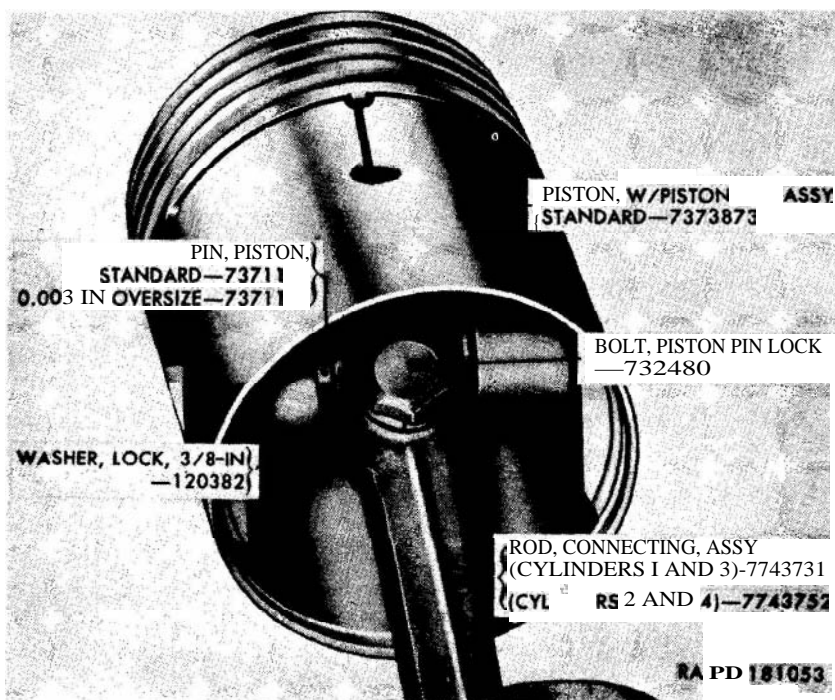

Figure 42. Location of **piston** pin lock bolt.
b. Clamp the connecting rod and piston assembly in a bench vise and remove the piston pin lock bolt and lockwasher (fig. 42).
d. Install the piston pin lock bolt and lockwasher (fig. 42) .